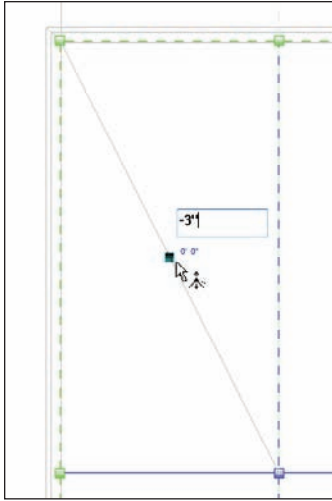

FIGURE 7.14 Click the point to taper the roof to this point.
28. Pick the point that you just added. Notice there is a blue elevation that shows up, as shown in Figure 7.14. Click the elevation, and type $-3''$.